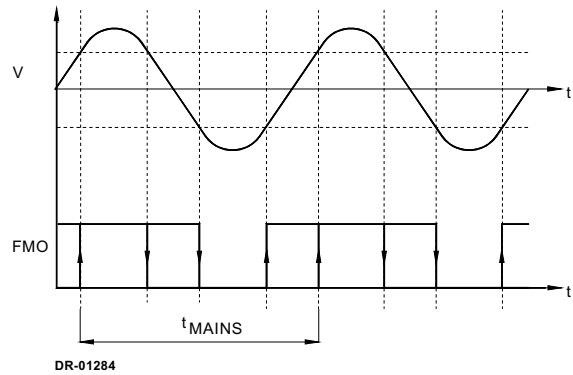

Figure 10: Mains zero crossings on FMO
Note that the FMO output is not available in the DIP-8 package type. The square wave signal of FMO indicates the polarity of the mains voltage. Due to comparator offsets, the FMO low to high transition can occur within a range as shown in figure 10. The time between successive low to high transitions will be equal to the mains voltage period.
**Parts List for Application Circuit: Figure 10**